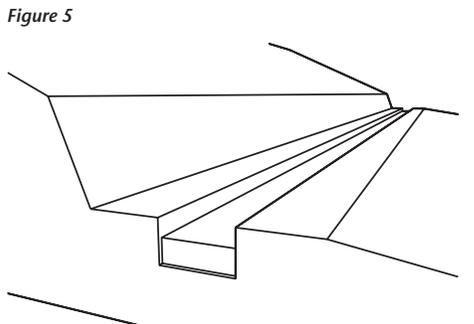

Figure 5
Step 4: Place wallstones on the 3/4-inch clean stone base material near the front of the base trench. See Figure 5.